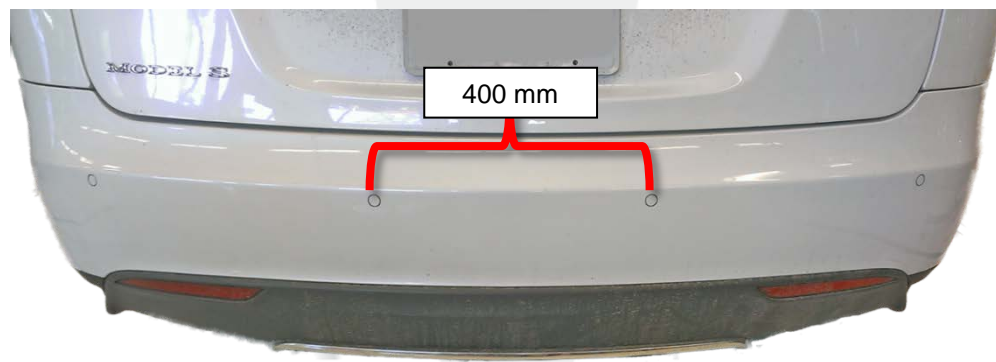

Figure 2 (Old rear fascia)
- If the sensors are approximately 400 mm apart (Figure 2), continue to the next step of this procedure.